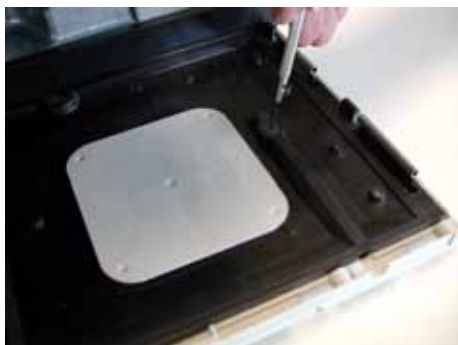

Figure 5 Removing the rubber plugs
- 6 Remove the two rubber plugs by use of a small, spiky screw-driver or tweezers (see Figure 5).